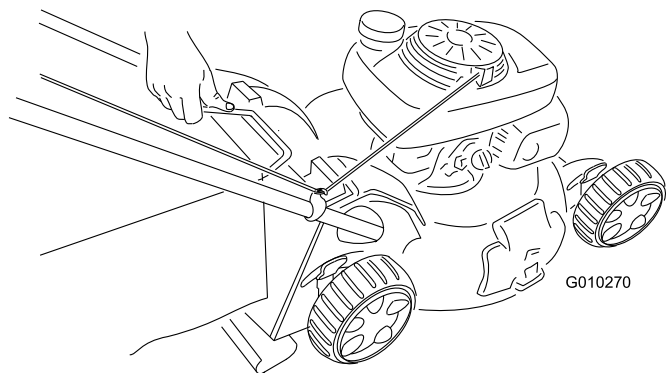

Figure 30
2. Lift the grass-bag handle out from the grooves at the top of the machine, and remove the bag from the machine (Figure 30).